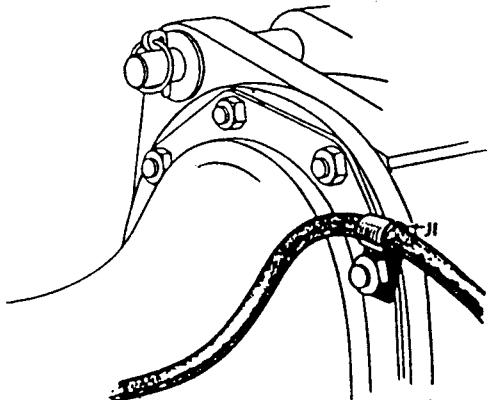

FIG. 11.
(1). Pass the cable along the rear axle, thread through hole in transmission housing flange and behind steering arm and secure by three clips "J1," "H1" and "H2" to existing bolts on axle housing and lower steering housing, respectively, as shown in Figs. 11 and 12.